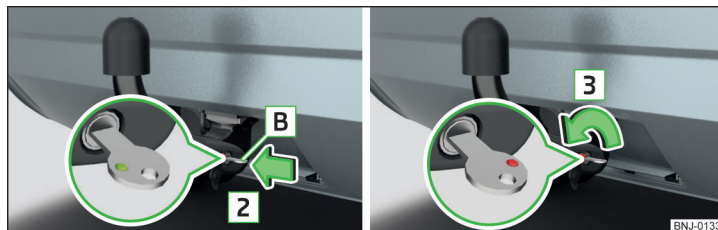

Fig. 251 Insert the key into the lock / unlock the lock
- Insert the key **[B]** into the lock in the direction of arrow **[2]**, so that its green marker points upward » Fig. 251.